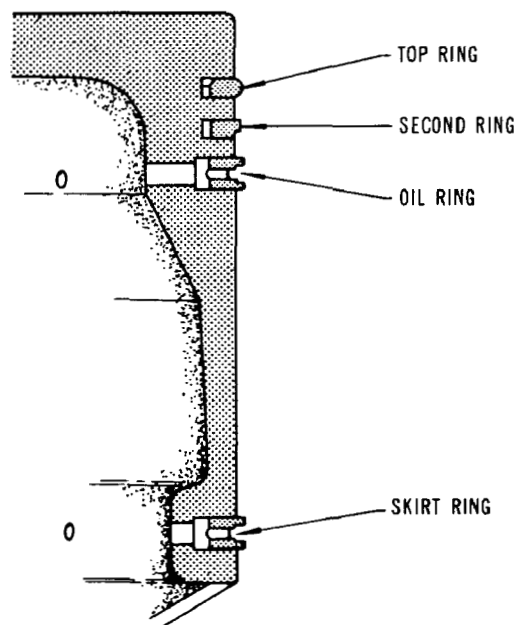

Fig. 6-3-11
2. **MOUNT SECOND RING WITH SCRAPER EDGE DOWN OTHERWISE OIL PUMPING AND EXCESSIVE OIL CONSUMPTION MAY RESULT.** Refer to Fig. 6-3-11 for correct placement of rings.